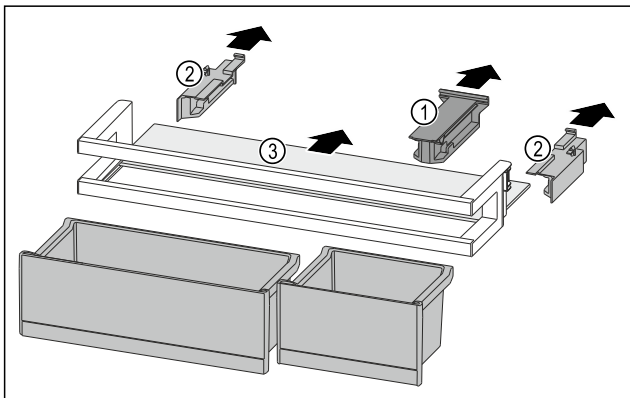

Fig. 119
- ▶ Pull off the holding part Fig. 119 (1).
- ▶ Pull off the side parts Fig. 119 (2).
- ▶ Remove the shelf Fig. 119 (3).